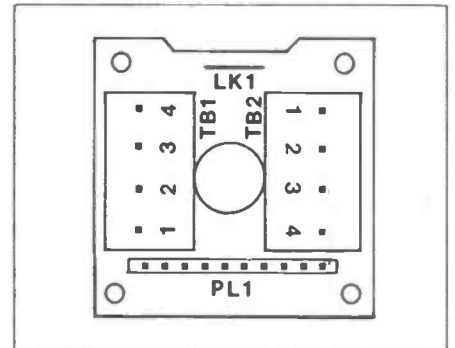

Figure 4. Overlay, Terminal PCB.
Figures 4 and 7 show the mounting details. Both terminal connecting blocks TB1 and TB2 are inserted with their screw heads facing outwards, and the connector side facing inward. Fit the wire link in position LK 1 allowing enough slack to be able to cut it if needed later on. Finally, insert 10 way vertical plug PL 1, the short terminal ends go into the PCB. Solder all components into position.
Remove sections C and D and the main PCB if previously fitted. A 12 volt power source will be needed and is wired +12V to terminal A (1) and 0V to B (2) on TB 1 (figures 4 and 7). Use a suitable cable, such as extra flex, which is thin enough to be threaded through the drilled hole in the gymbal. Plug the PCB onto PL 1 and apply power. After several seconds "warming-up" time, LED 1 should turn on accompanied by a quiet click from RLA 1. Point the reflector away from yourself and wait until the LED turns off. It must be appreciated that the unit will not function correctly out of its case, due to saturation of I.R.D. 1, but an indication of operation can still be given by moving a hand over the reflector to bring on LED 1. The trigger threshold control, RV 1, can now be set clockwise to increase or anti-clockwise to decrease sensitivity, but cannot be easily adjusted "in situ". The PCB will have to be unplugged to do this and then re-fitted.